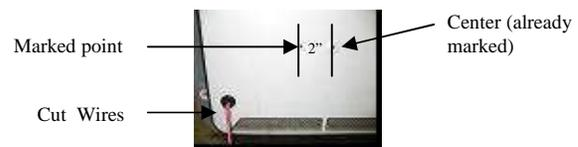

Figure 1
3. In the center of the panel is the injection-molding site. Make a mark 2 inches (50 mm) from the center toward the side that the wires exit the panel, and 6.625 (168 mm) from the top edge (Figure 1).
4. Using a 2 ½ inches (65 mm) hole saw, drill in the center of the panel and the mark that was made in step 3 (Figure 1).